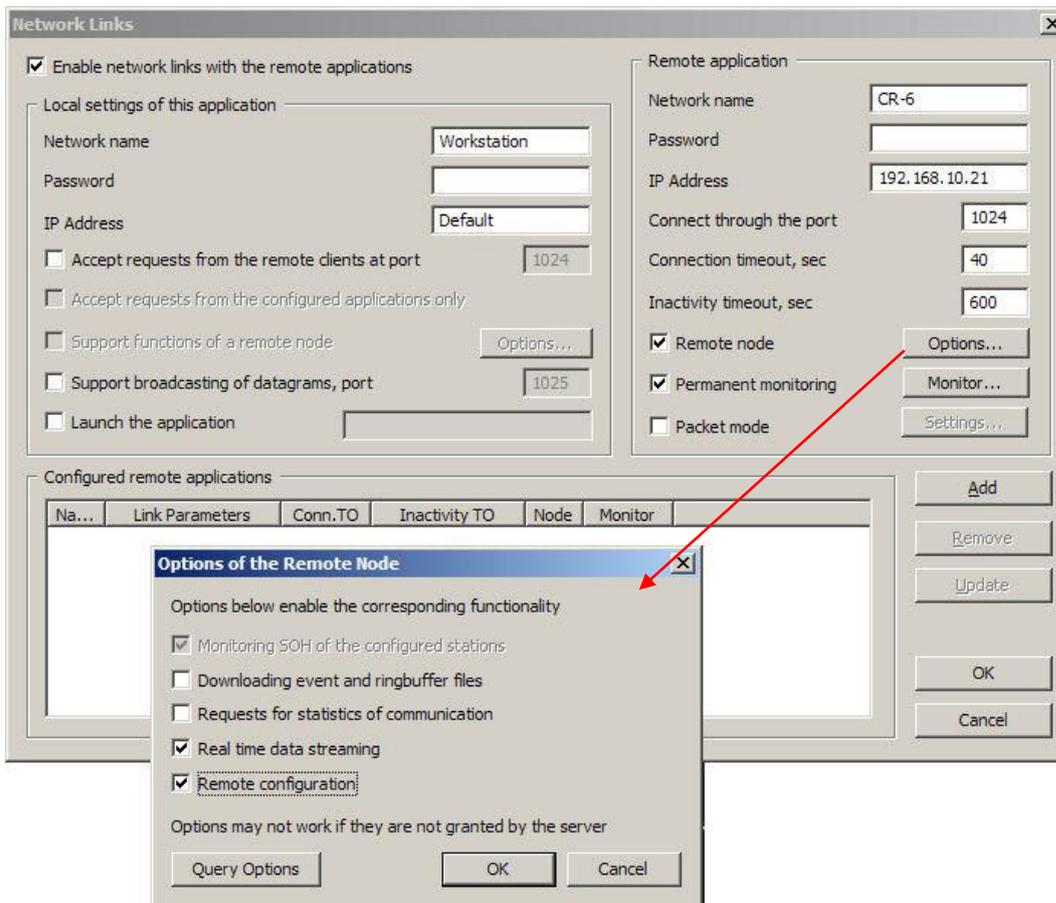

Figure 20. Network Links
- Put in the following data (see Figure 20)